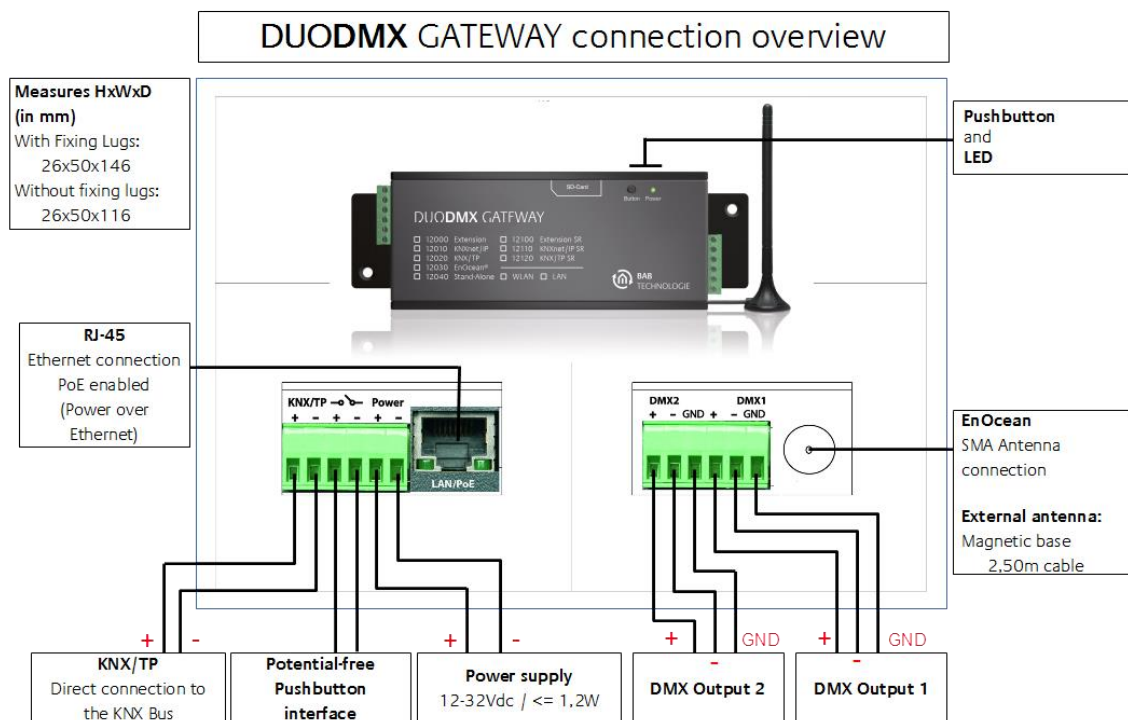

Figure 3: DUODMX GATEWAY – connection diagram
As a first step, connect a conventional 12-32V power supply (DC) to the appropriate pluggable screw terminals or to a PoE network connection (Figure 3) and connect the DUODMX GATEWAY to the network. The green power LED is continuously on once the device has been started. The second step is the configuration of the network settings.